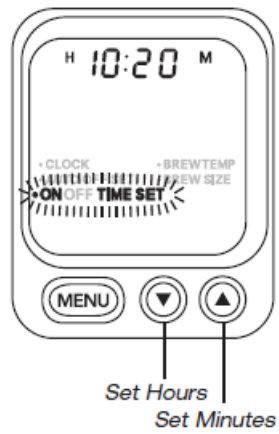

figure 21
- Press the Menu ▼ button until ON TIME SET flashes (see figure 21).